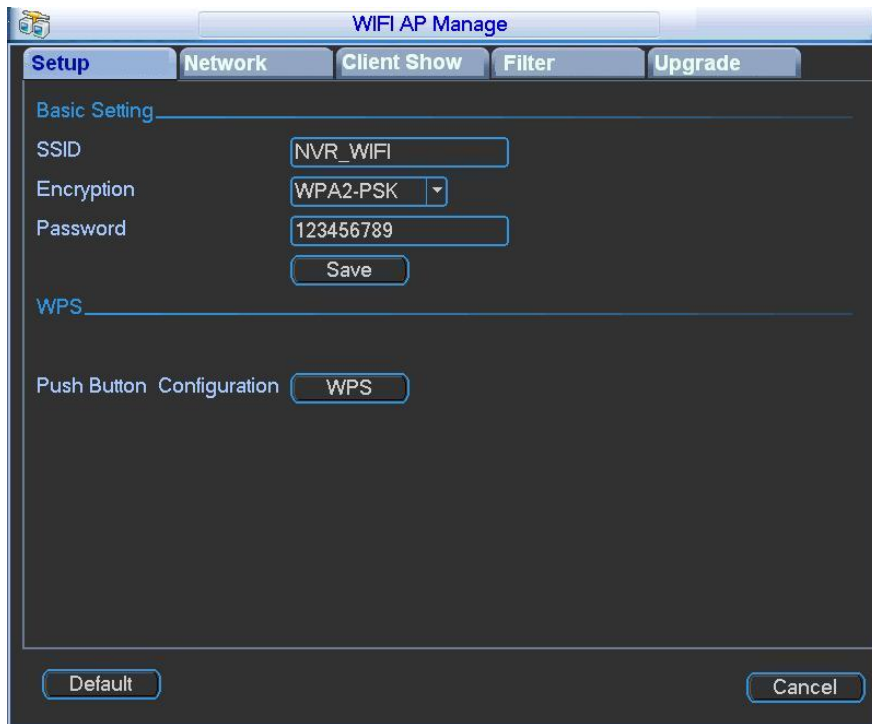

Figure 5-88
Double click WIFI AP item, the WIFI AP interface is shown as below. See Figure 5-88.
- WPS: WPS button is to search and match WIFI AP SSID when there is no corresponding network camera information. In Figure 5-88, click WPS button, and then click the WPS button of the network within the 2 minutes. The net indicator light of the network becomes green and flashing. After 30 or 40 seconds, the NVR can add the network camera to a channel.